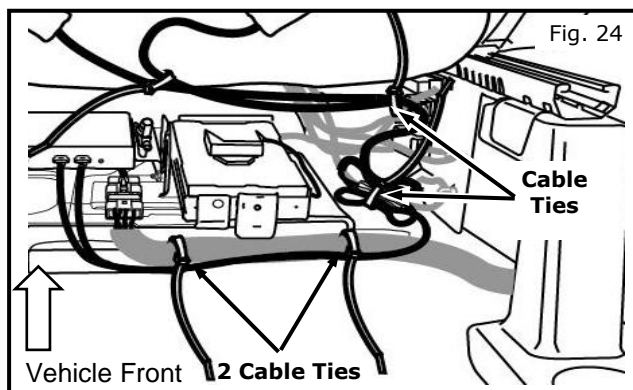

Fig. 24
10.19) Continue routing headrest cables toward passenger door and secure to factory wiring using one cable. Figure 24
10.20) Use four cable ties to secure headrest cables and cables slack to factory wiring harness. Figure 24